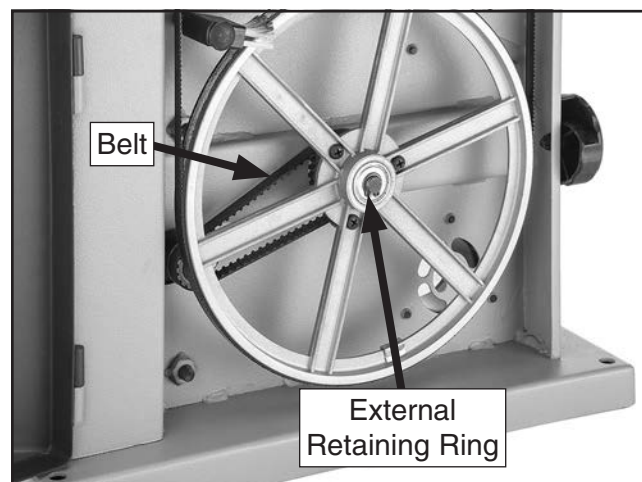

Figure 52. Belt change components inside lower wheel cover.
6. Remove external retaining ring from lower wheel shaft (see **Figure 52**) and remove lower wheel.